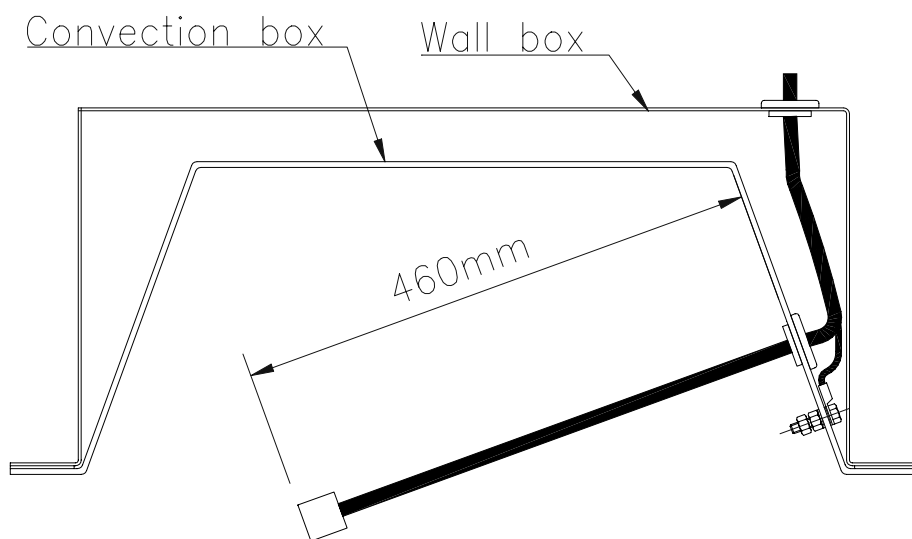

Fig. 9a
*All cables should be routed as shown in Figs 9a & 14.*
1. **Place the insulation slab in front of the cables** and fix to the wall with masonry nails and washers supplied, taking care not to damage the cables. See Figs. 9a, 14 and 7.
5. Bring the 4-way plug and cable through the right hand hole in the side of the convection box ready for connection to the burner (see Fig. 9a). (Do not bring the earth cable through this hole) Coil up any excess and place between the insulation slab and the wall.